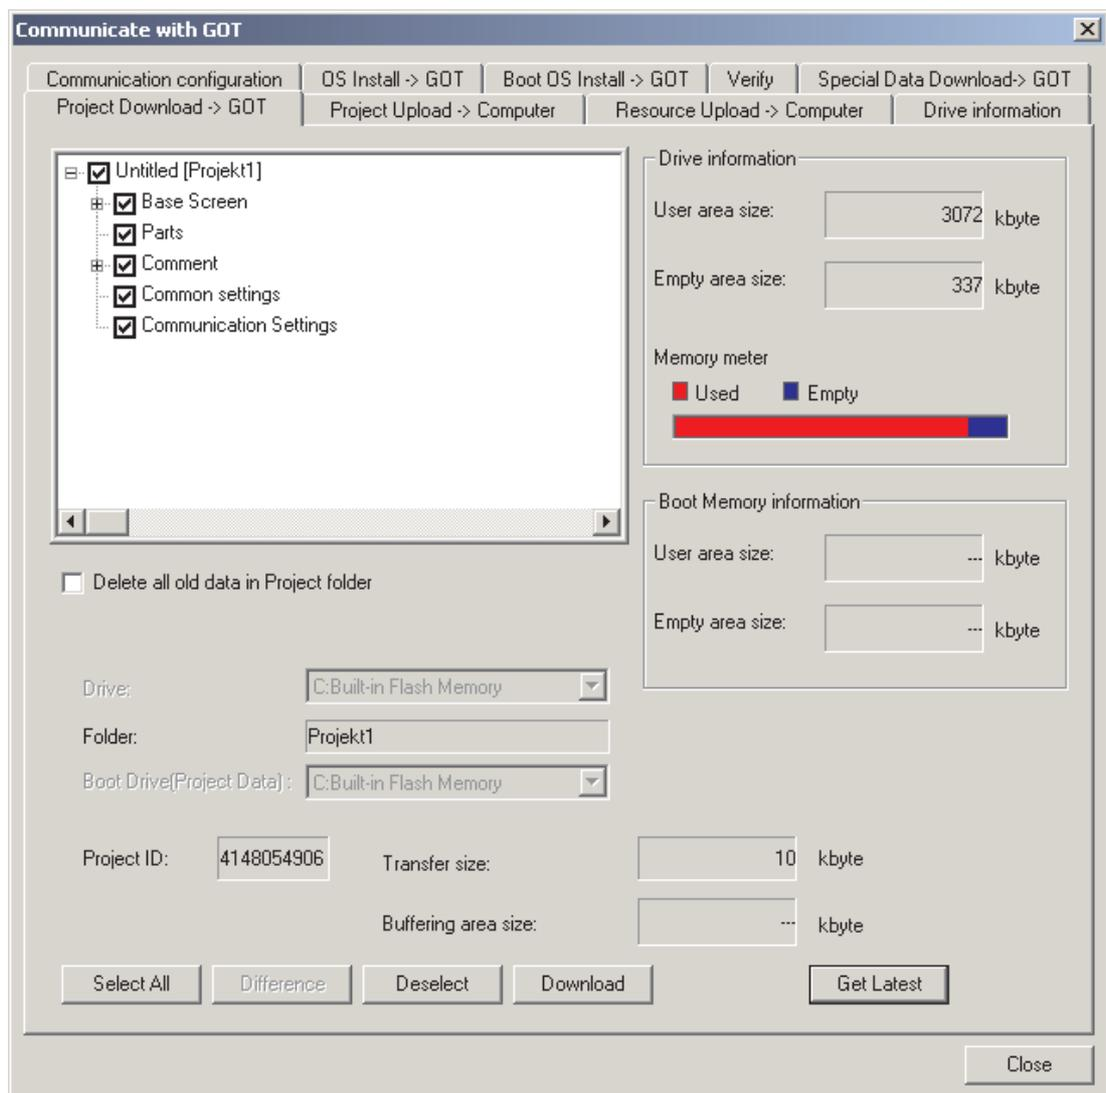

Fig. 6-1: Dialog box *Communicate with GOT*
Tab. 6-2: Description of the tabs in Fig. 6-1
- ① Select the menu **Communication** → **To/From GOT**.
- ② The in Fig. 6-1 shown dialog box is as a standard displayed with the tab **Project Download** -> **GOT** opened.
- ③ Set the for transferring data required settings.
Tab. 6-3: Description of the tab **Project Download** -> **GOT** in Fig. 6-1